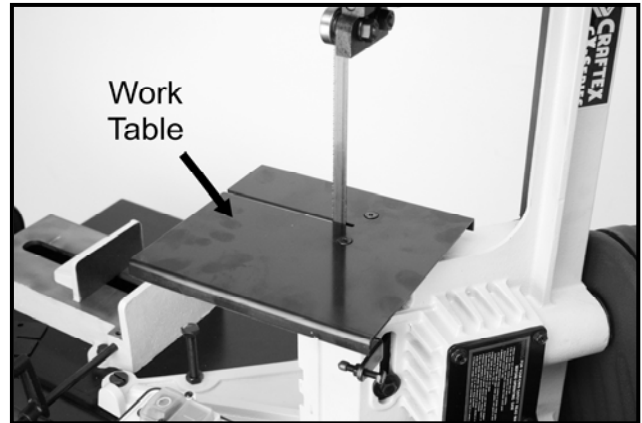

Figure-12 Installing the work table
5. Guide the blade through slot in the table and secure the table with two screws removed in step-4. See figure-12.